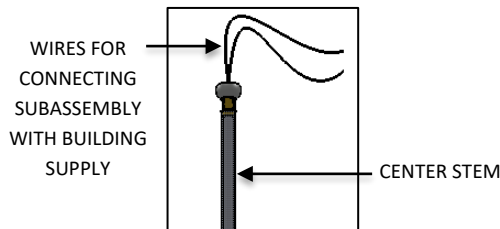

FIG. 9 – WIRE ROUTING THROUGH CENTER STEM
3. Feed wires from the HOLDER through the CENTER STEM. Attach CENTER STEM onto the FITTER at the COUPLING as shown in FIG. 9.